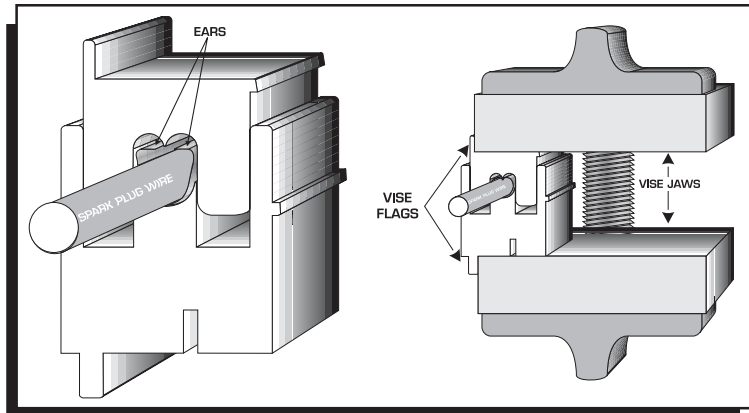

Figure 6 Installing the Wire and Crimping.
5. After positioning the conductor, position the terminal/wire assembly into the "W" groove side of the Mini-Crimper. Align the tabs so they are exactly centered on the point (Figure 6).
6. Slide the stripper block over the crimping block. Push the wire and terminal in the rest of the way by lightly squeezing the Mini-Stripper-Crimper together. Make sure the "Vise Flags" are on the same side and that they are pushed against the vise jaws to ensure correct alignment (Figure 6).
7. Slowly close the jaws of the vise. Make sure that the crimp is properly forming and that the tool remains aligned. Stop when the ends of the terminal have curled tightly into the wire sleeve but do not tear into the sleeve (Figure 6). DO NOT overcrimp the wire!